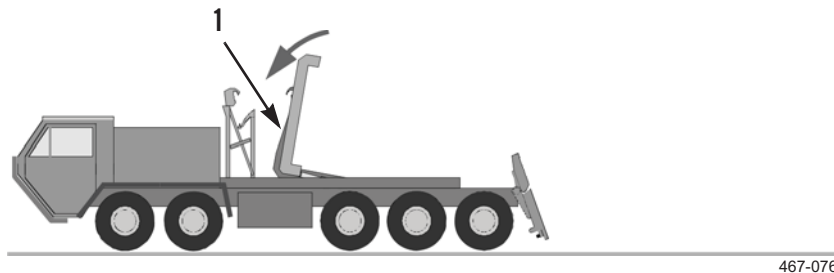

Figure 37. Hook Arm Near Home Position.
- When hook arm (Figure 37, Item 1) is near home position, return engine to idling speed (PLS: TM 9-2320-364-14&P, HEMTT: TM 9-2320-326-14&P).